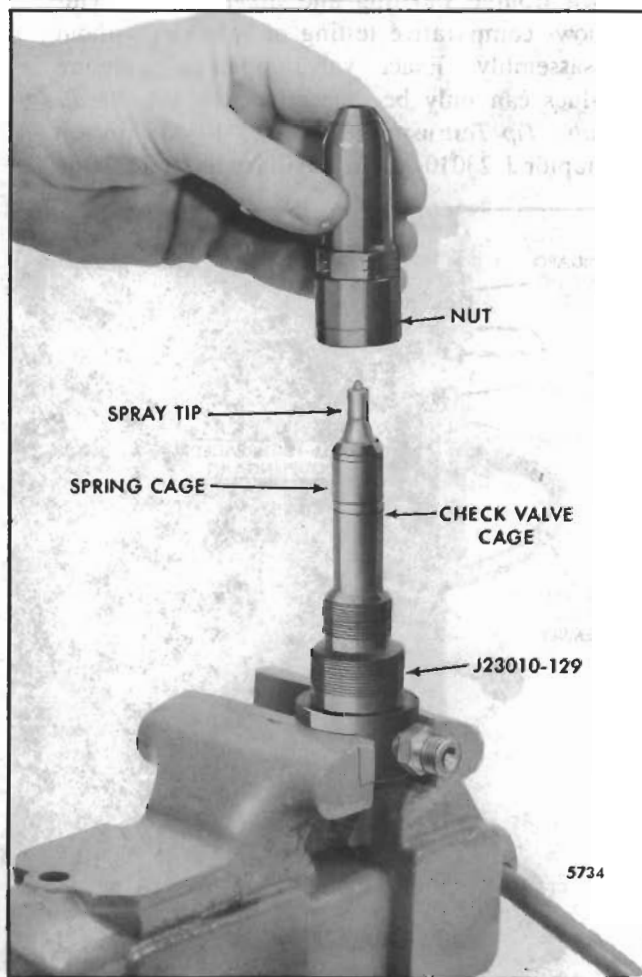

Fig. 14 - Assembling Injector Valve Parts on Tip Tester Adaptor J 23010-129
2. Carefully pilot the injector nut over the **spray tip** and valve parts and thread it onto the **adaptor** (Fig. 14).